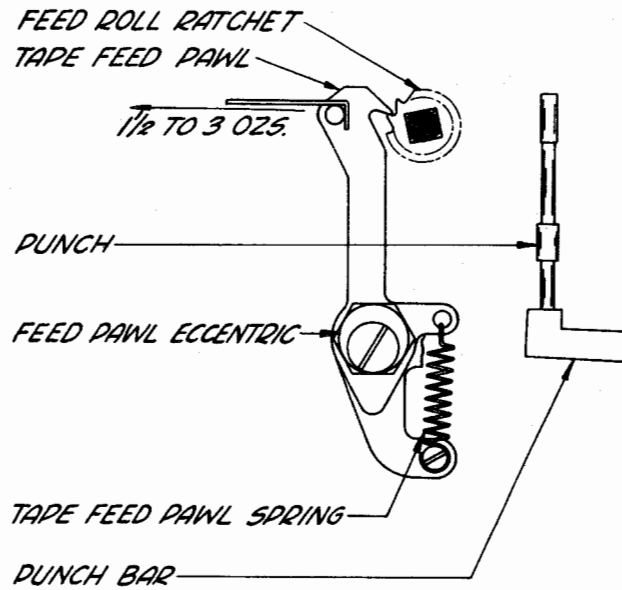

Figure 35
2.81 Tape-feed Pawl: The feed pawl should engage a tooth on the feed-roll ratchet without overtravel when the main shaft is rotated until the selected punchbars just touch the ends of the punches. See Figure 35.
**2.84 Tape-feed-pawl Spring:** Hook a scale over the stud on the feed pawl and pull horizontally. It should require a pull of minimum 1-1/2 ounces, maximum 3 ounces, to start the pawl moving. See Figure 35.